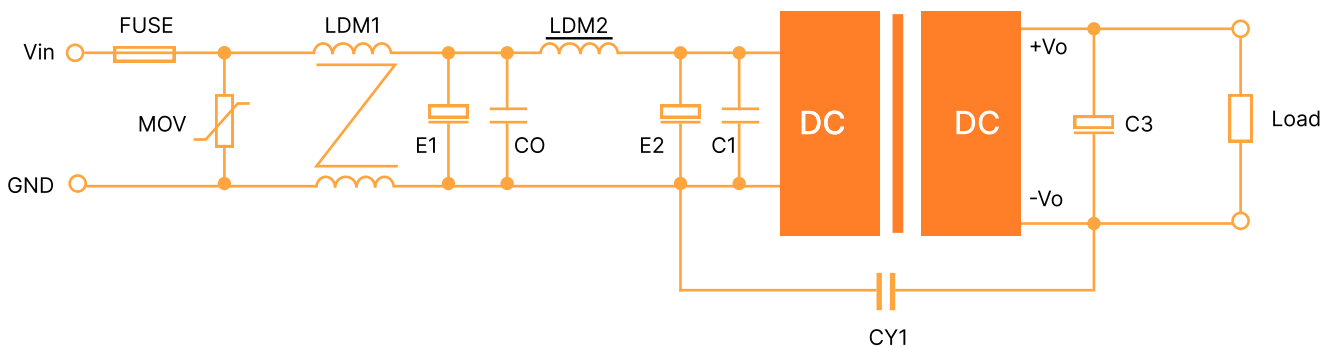

Figure 2: EMC Typical Recommended Circuits
2. EMC requirements: For situations with high EMC requirements, a typical EMC recommended circuit is shown in Figure 2.